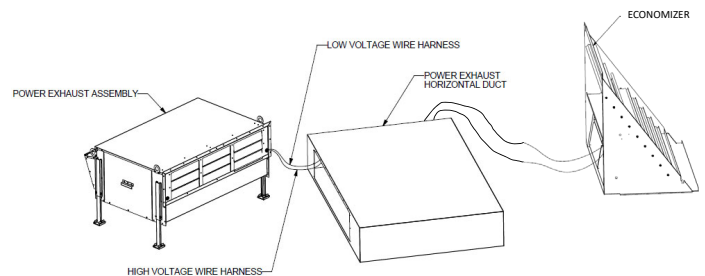

FIGURE 6
2. Feed the line voltage and low voltage wires through the return duct back to the knockouts provided in the economizer, per Figure 6.